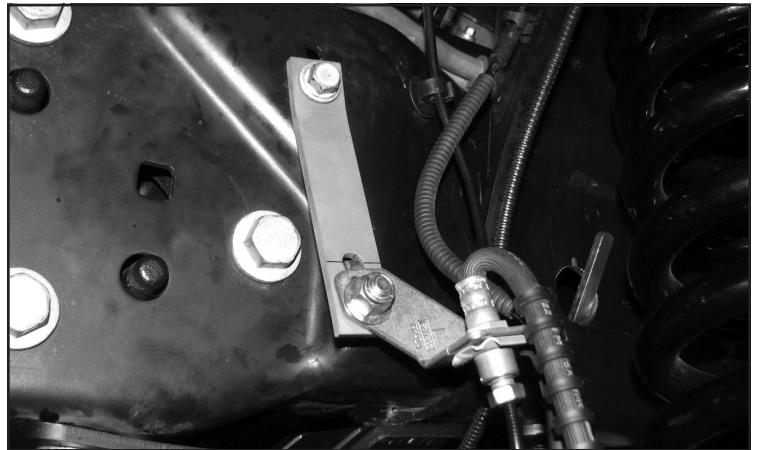

FIGURE 17 - STEP 23
23. **(DRIVER SIDE)** Install FT30660 (Brake line bracket) to the factory brake line tab using the supplied 3/8" hardware. Next, install the bracket to the frame using the factory hardware. Torque hardware to 52 ft-lbs. **SEE FIGURE 17**